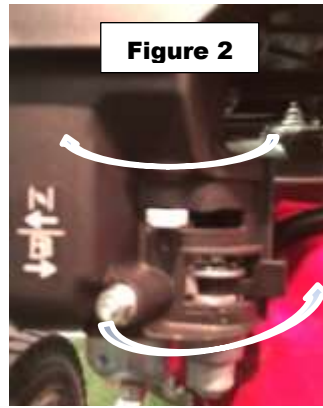

Figure 2
- Move the choke to the “closed” or “start” position. (figure 2 or 6 depending on the type of engine. Consult your engine manual)